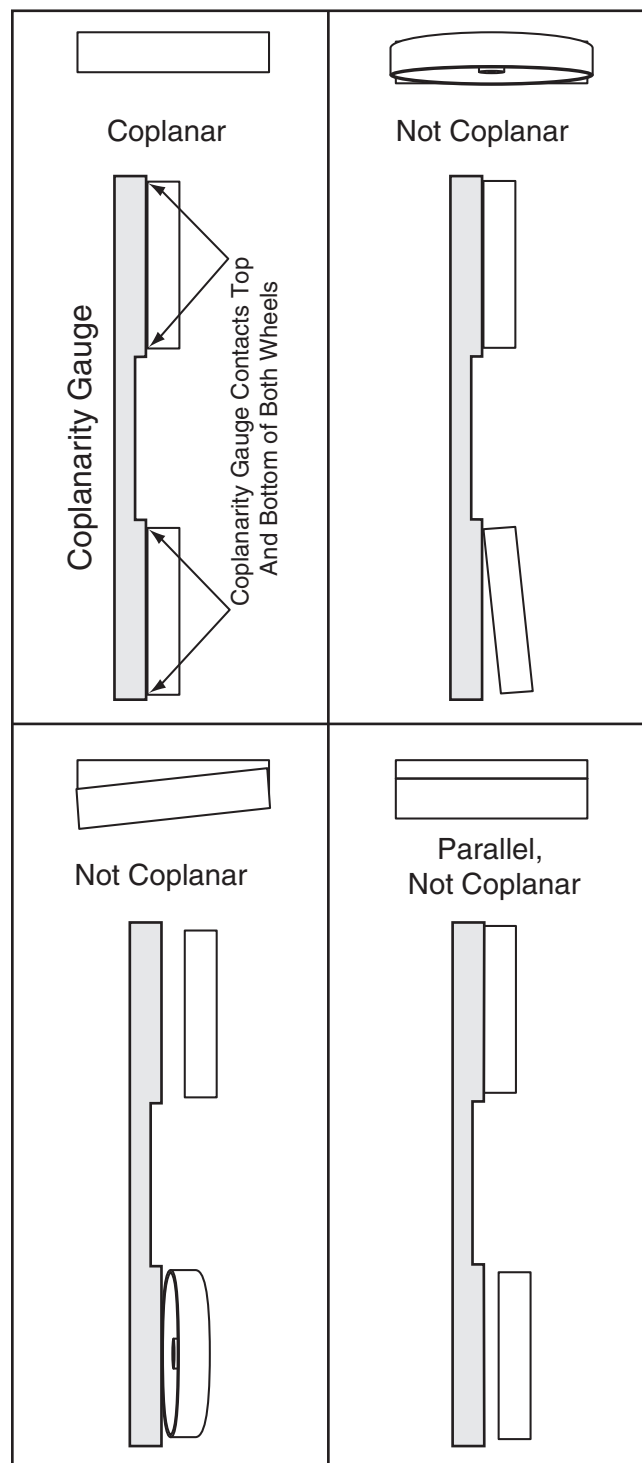

Figure 50. Wheel coplanar examples.
When the wheels are coplanar (in the same plane), the bandsaw cuts straighter, with much less vibration, heat, and blade wear because the blade is continuously balanced on the wheels. Refer to **Figure 50** to better understand this arrangement.
4. Hold a self-made coplanarity gauge (see **Figure 50**) close to the center of both wheels, making sure that the gauge fully extends across the wheels as shown in **Figure 50**.
Example 1: If the top of the lower wheel leans to far forward (see the top right example in **Figure 50**), thread the top two adjusting sleeves out.
Example 2: Alternately, if the lower wheel is parallel to the upper wheel but behind the plane of the upper wheel (see bottom right example in **Figure 50**), then thread all four adjusting sleeves in.